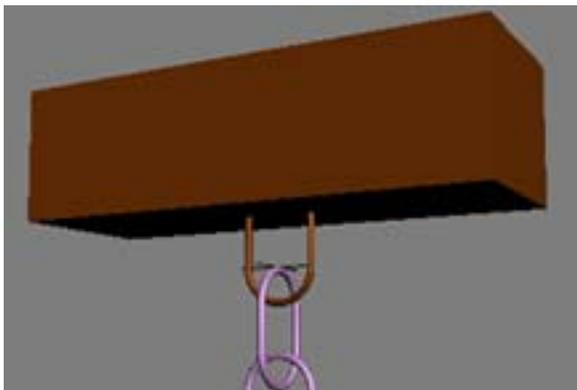

Figure 8. Anchor box attached to top link
Step 9. The wrecking ball is going to swing from an anchor point or a fixed point in space. Create this by making a box and moving it to the top-most link in the chain. The box is then converted into an editable-poly and attached to the top link of the chain. Figure 8 below shows the result of this step.